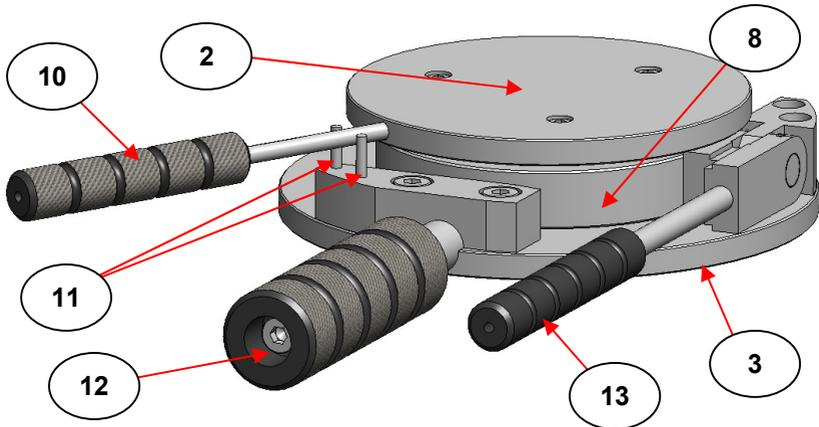

Fig 8. Complete Top Platen Pressing Assembly on Lower Platen Pressing Assembly with Aluminium Foils and Sample
Now, very carefully take the top platen pressing assembly (2) and lower it with the top polished surface (5) coming into contact with the top aluminium foil disc (9), using the inside of the guide ring (8) for location. The handle (10) of the top platen pressing assembly (2) should be located between the guiding pins (11) of the lower platen pressing assembly (3). (See Fig 8.)
After removal of the Film Maker Accessory assembly components from the cooling chamber (1), dis-assemble the components to gain access to the compressed film sample by lifting off the top pressing platen assembly (2) by use of the handle (10). In most instances this should come away easily. If some resistance to separation occurs, use the release lever (13) provided on the right hand side of the lower pressing platen assembly (3) to prise the components apart. (See **Fig 8.**)